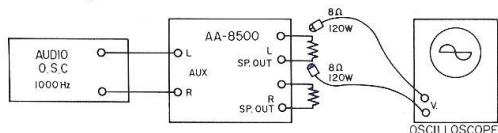

Fig. 1
- Connect an 8 Ω 120 W resistor to the left and right channel speaker terminals, and connect the oscilloscope across this resistor (see Fig. 1).
- Connect instruments as shown in Fig. 1 and use a VTVM in place of the oscilloscope.